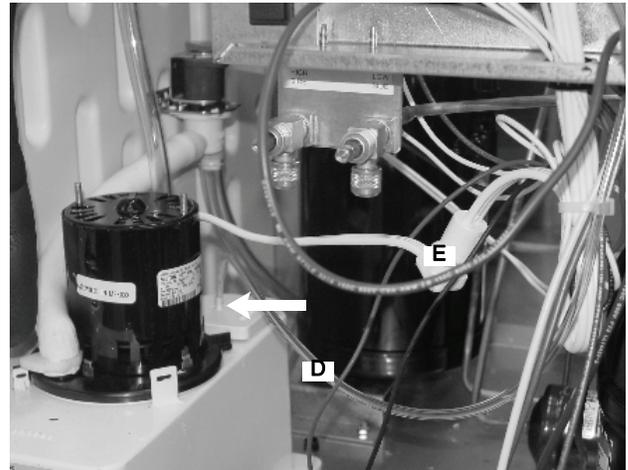

Figure 48.
58. Connect the pressure transducer tube (D) to the water pan.
Connect the water pump motor harness (E) (FIGURE 48).